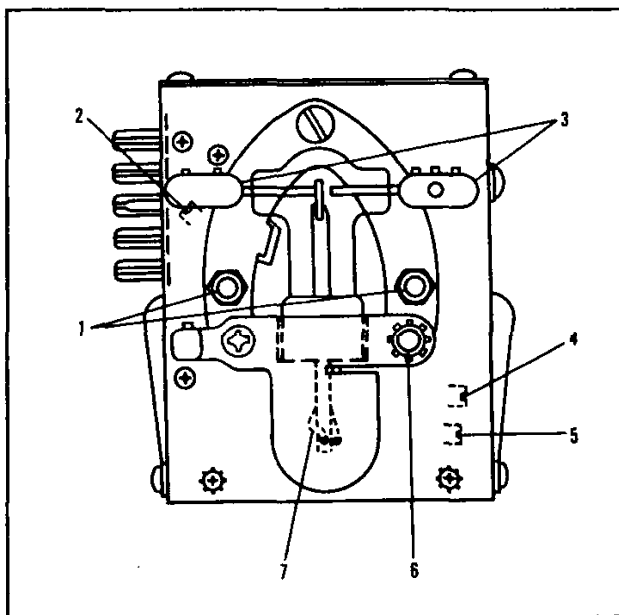

Figure 5-11. Keying Relay K102 and Vacuum Contact S116
(1) Loosen the setscrews that hold the connecting wires to the fixed contact terminals (No. 3 in fig. 5-11), and remove the wire connector.
(2) Loosen the stud (No. 6 in fig. 5-11) until the clamp around the base of the vacuum contact becomes loose enough to allow the removal of the glass vacuum tube. Remove the tube containing the switch by pulling glass tube straight up.
(3) Note the split collar on end of glass operating arm that connects vacuum contact to relay case. Loosen setscrew in this collar so that collar is loose on its shaft.
(4) Before attempting to install the new vacuum switch, note the manner in which the movable switch arm (extending out of bottom of glass bulb) engages the wire actuating arm (No. 7 in fig. 5-11). When installing the new switch, the arm of the switch must be securely engaged between the two wires that form the actuating arm (No. 7 in fig. 5-11). To prevent damage to the new switch, it is recommended that the two wires forming the actuating arm, be spread apart very slightly while the vacuum switch arm is being engaged. This may be accomplished by using a screw driver blade to spread the wires approximately  $1/32$ ".
(5) Place rubber gasket in position and insert new vacuum switch in socket. Be sure movable switch arm is securely engaged in wires of operating arm No. 7.
(6) Retighten stud (No. 6 in fig. 5-11) and reconnect wires to terminals labelled No. 3 in figure 5-11.
(7) With relay in normal unoperated position, the vacuum contact (in glass bulb) should be closed and resting firmly against the fixed contact that is connected to RECEIVER terminal of transmitter. To se-
(8) The timing adjustment of the vacuum contact can now be made. Remove top cover of keying relay case by taking out two Phillips screws on the top surface.
(9) Examine the interior of the relay and note double row of contacts near top. Also note that movable contact arms are all attached to a thick bakelite plate located in the center of the case. By using a thin tool, with a notch in one end, that is capable of straddling this bakelite plate, it is possible to grip the bakelite and operate the relay mechanically by pushing the plate from side to side. Note that as this bakelite plate is moved, all movable contact arms in the relay as well as the movable arm in the vacuum contact will also move.
(10) With the relay in the normal "rest position," three internal relay contacts, on the side nearest the plug, are closed and the vacuum contacts (in external glass bulb) should now be resting firmly against the fixed contact that connects to the RECEIVER terminal on the side of transmitter case.
(11) If vacuum contact is not set properly, loosen two studs (labelled No. 1 in fig. 5-11) that hold horse-shoe shaped yoke to relay case.
(12) Note adjustment screw (labelled No. 2 in fig. 5-11) that can be seen through hole on plug side of case. By rotating this screw, the position of the movable arm in the vacuum contact can be adjusted as desired.
(13) After vacuum contact has been adjusted to correct position while relay is in rest position, the relay should then be operated mechanically (as described in step No. 9) and the action of the vacuum contact and the 5 normally open contacts on the interior of the relay case should be noted.
(14) As the relay is operated mechanically, the correct sequence of contact make and break is as follows:
(15) If above sequence is not obtained, further adjustments of screw labelled No. 2, in figure 5-11 is
(16) After adjustment has been completed, re-tighten two screws labelled No. 1 in figure 5-11.